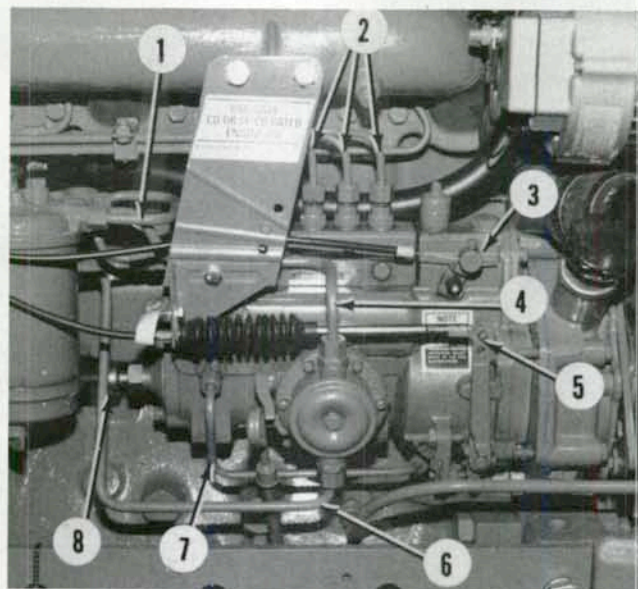

Fig. 118—View of fuel injection pump installed on the engine.
**75. R&R FUEL INJECTION PUMP.** Thoroughly clean the pump, fuel lines and area around pump. Proceed as outlined in paragraph 74 to position flywheel and pump timing marks in alignment. Shut off the fuel. Disconnect and remove all fuel lines from the injection pump and cap all openings. Remove pump lubrication tube (7—Fig. 118). Disconnect fuel shut-off cable (3), throttle control linkage (5) and tachometer drive cable (8). Remove the three cap